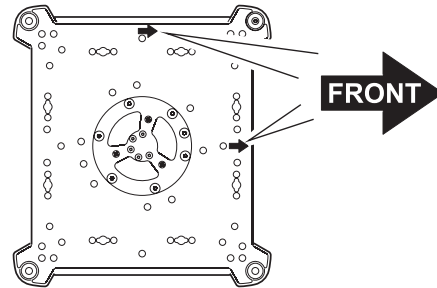

Figure 6: Front of fixture
3. See Figure 6. Note the position of the arrows on the bottom of the base that indicate the front of the fixture.